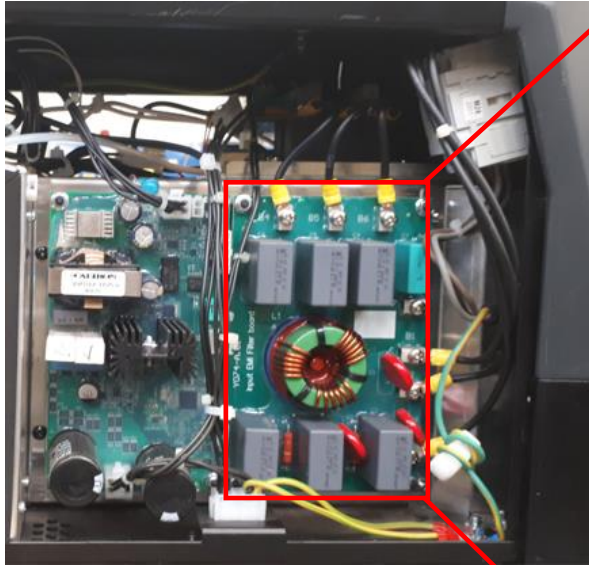

Figure 19
3. Locate the EMI Board. See **Figure 19**